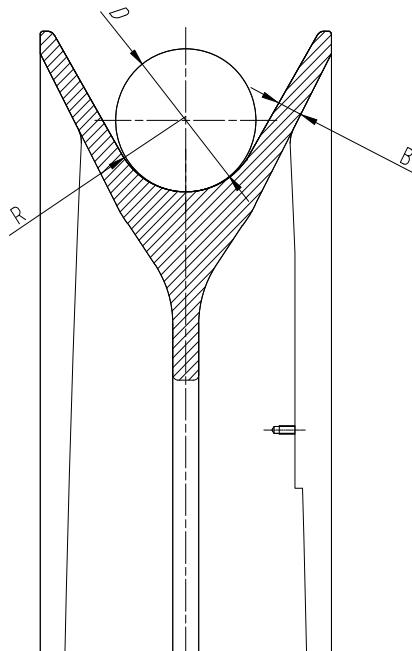

Figure 7-83: Sheave dimensions
- If the groove radius R (see Figure 7-83) is larger than 50.8 mm, replace the sheave.
- If the groove breadth B (see Figure 7-83) is less than 29.9 mm, replace the sheave.